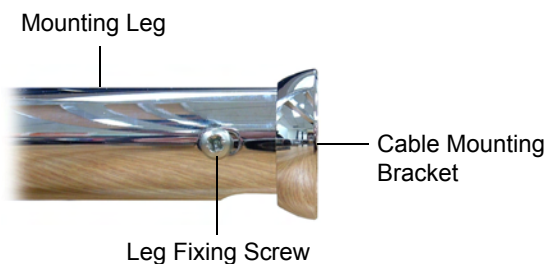

Figure 5: Cable Mounting Bracket Adjustment
2. Remove the Cable Mounting Bracket from the Towel Rail by undoing the Leg Fixing Screw (see Figure 5 on page 9).
1. Remove the Cable Mounting Bracket from the Towel Rail by undoing the Leg Fixing Screw (see Figure 5 on page 9).
12. It may be necessary to adjust the Cable Mounting Bracket so that it fits flush against the wall. This can be done by loosening the side Leg Fixing Screw and moving the Bracket forwards or backwards (see Figure 5 below).